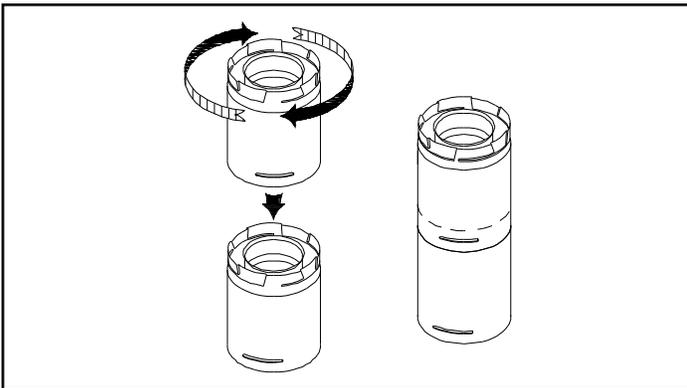

Figure 3.24
- Twist-lock procedure: Line up locking lugs on male and female ends of pipe sections. Insert the male end of pipe into the female end until the locking lugs are covered. Twist the female end clockwise an eighth of a turn to lock sections together, Figure 3.24. Screws are not required to secure the joint, but are acceptable provided they do not penetrate the inner wall of the vent pipe.